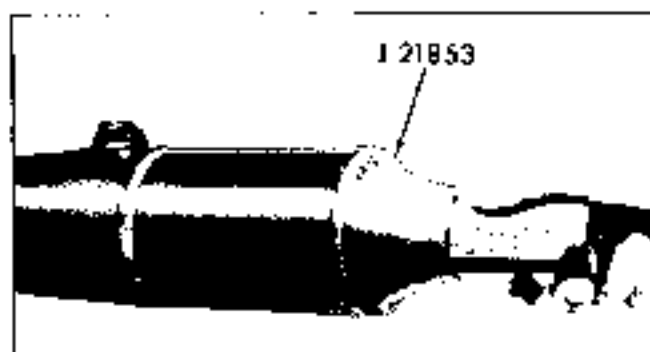

Fig. 9-10 Installing Turn Signal Switch Cover
6. With mounting bracket removed pry wiring harness off steering column and allow wiring to hang free (Fig. 9-10).
8. Install turn signal switch cover using tool J 21853 (Fig. 9-10).